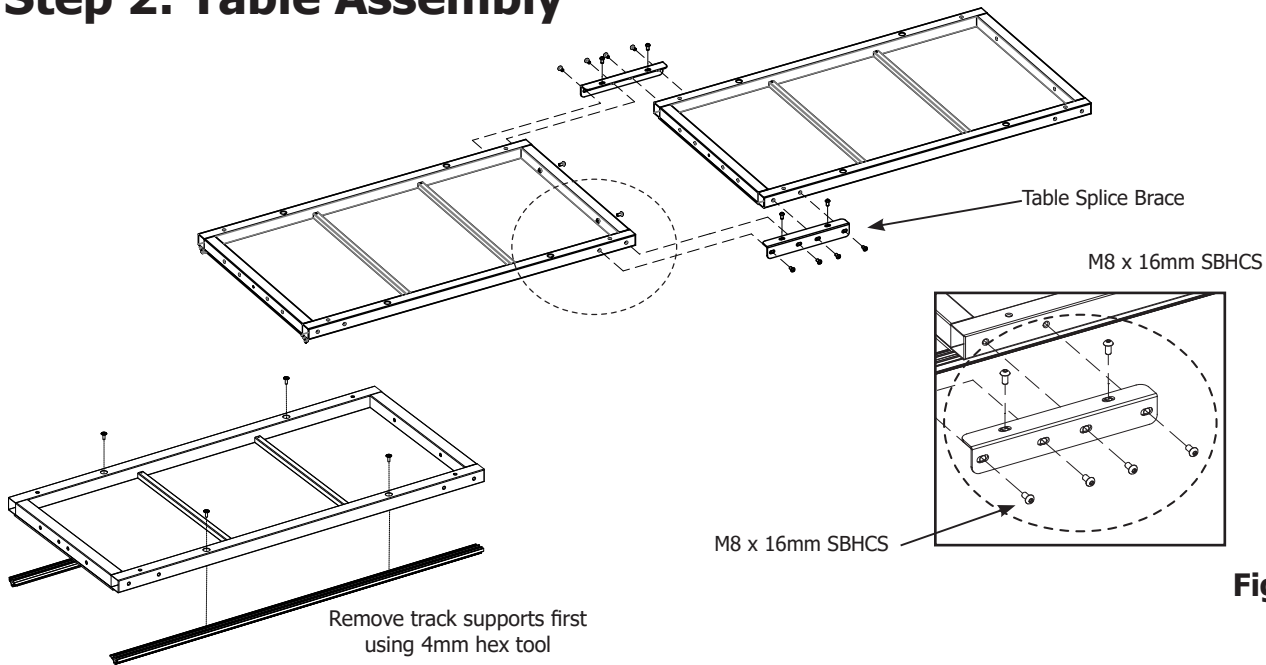

Fig. 2-1
- 2-2:** First, lay two table sections upside-down on the floor, end to end, close to each other. Join the sections together by placing a table splice brace onto the sections, as shown in Fig 2-1, lining up the holes in the brace with those in the sections. Make sure the flange portion of the brace is on top. (See Fig 2-1.)
- 2-3:** Place four (4) M8 x 16mm SBHCS through the side and two (2) M8 x 16mm through the top of each splice brace and finger-tighten them into the table sections.
- 2-7:** Fully tighten the two (2) top screws on each table splice brace, using the 5mm Hex tool. Now fully tighten the 4 screws on the side of each table splice brace with the 5mm Hex tool. All 24 screws should now be tightened.